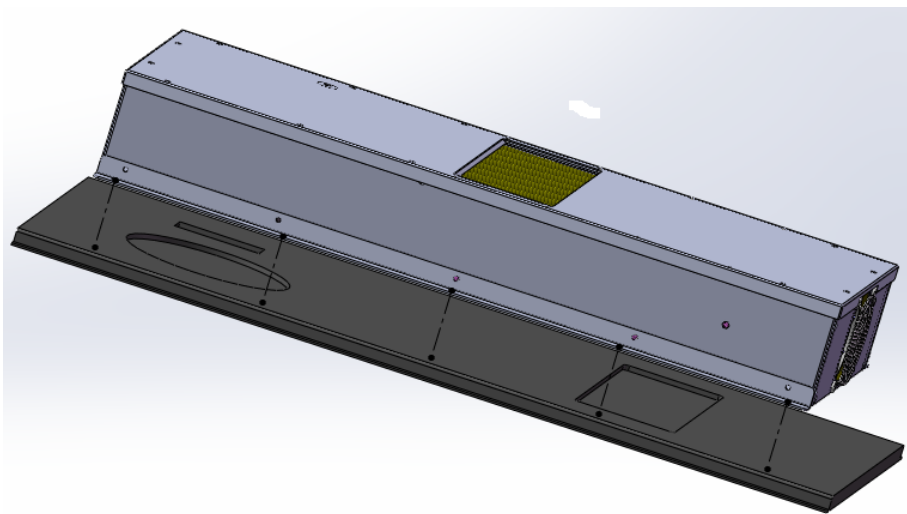

图 4-1 安装示意图 Figure 4-1 Installation digram
- 2) 使用螺栓, 将热交换器按图 4-1 安装在机柜上;
Installed the Heat exchanger on the cabinet use screw, as Figure4-1